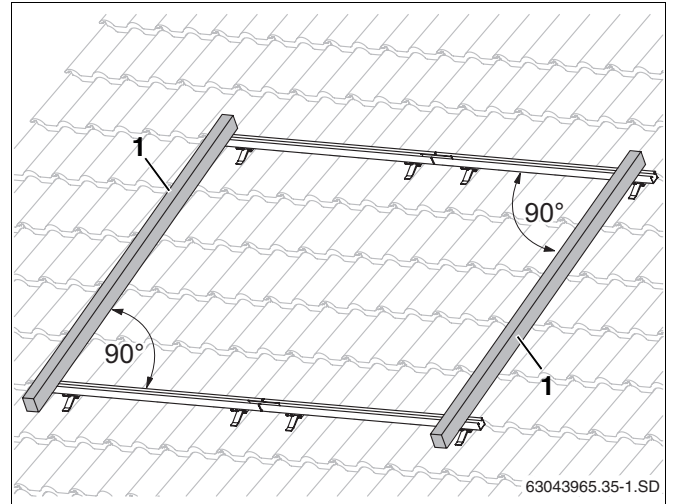

Fig. 33 Aligning the profile rails
- ▶ Align the upper and lower profile rails to the side flush with each other and level them (Fig. 33, use a spirit level).
Measure the diagonals or place a roof batten (Fig. 33, **Item 1**), for example, at the ends of the profile rails. The angle between roof batten and profile rail must be 90°. Align the profile rails over the slotted holes.